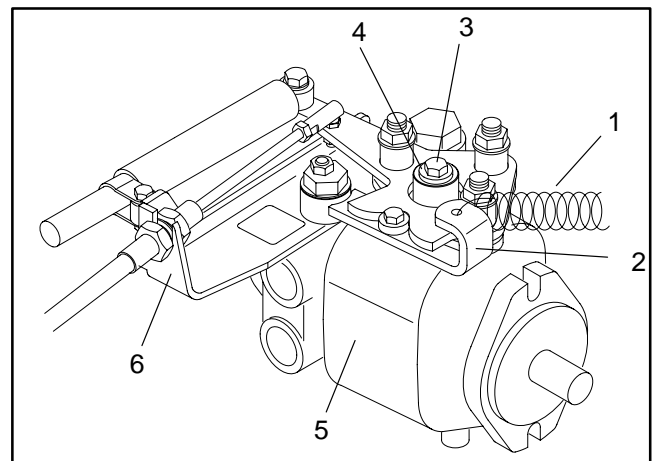

Figure 18
3. Disconnect extension spring from the neutral arm. Remove cap screw and pivot washer from camplate shaft of hydrostat (Fig. 18).
13. Fasten and tighten cap screw and pivot washer to the cam plate shaft of the hydrostat. Connect extension spring to the neutral arm (Fig. 18).